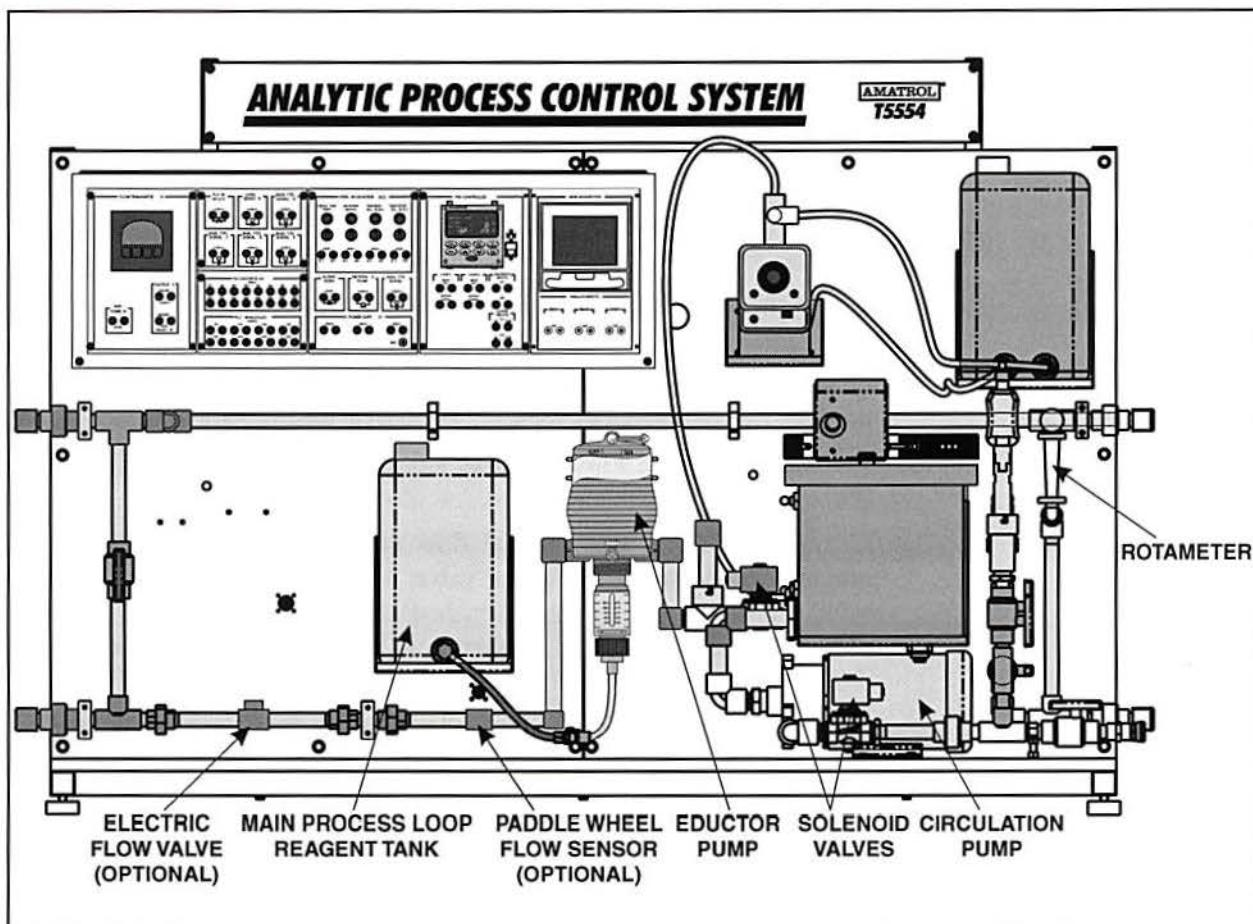

Figure 25. Components of the Main Process Loop
- 4. Perform the following substeps to locate the components of the main process loop, shown in figure 25.
Some of the items shown in figure 25 are optional items for the T5554 system.
A. Locate the **Rotameter**, identified in figure 25.
B. Locate the **Main Process Loop Reagent Tank**, identified in figure 25.
C. Locate the **Eductor Pump**, identified in figure 25.
D. Locate the **Circulation Pump**, identified in figure 25.
E. Locate the **Solenoid Valves**, identified in figure 25.
F. Locate the **Electric Flow Control Valve (optional)**, identified in figure 25.
G. Locate the **Paddle Wheel Flow Sensor (optional)**, identified in figure 25.